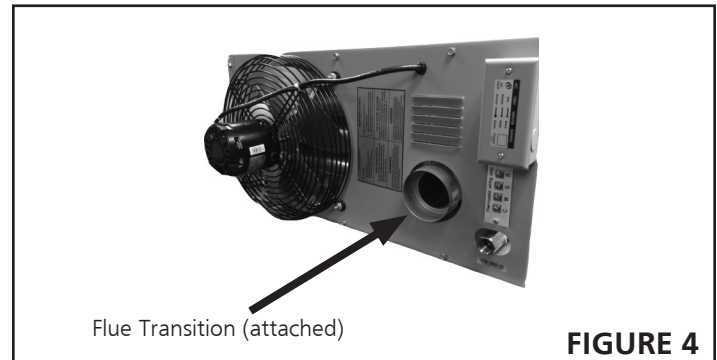

FIGURE 4
2. The vent pipe diameter for horizontal commercial installations shall be 4" (76mm). a transition piece has been supplied and is already attached to your heater. Refer to **figure 4**
2. The vent pipe diameter for horizontal residential installations shall be 4" on all units. A transition piece has been supplied and is already attached to your heater. Refer to **figure 4**